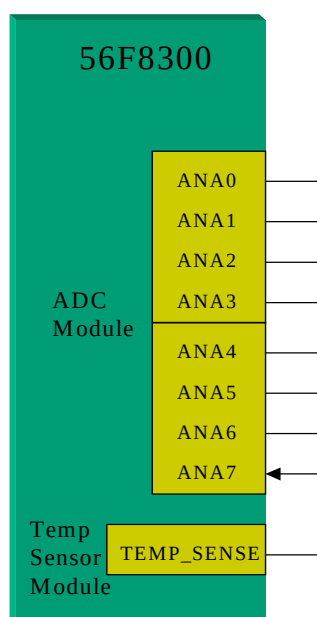

**Figure 1-17. Temperature Sensor Use Model**
**Figure 1-17** shows a typical use of the temperature sensor.